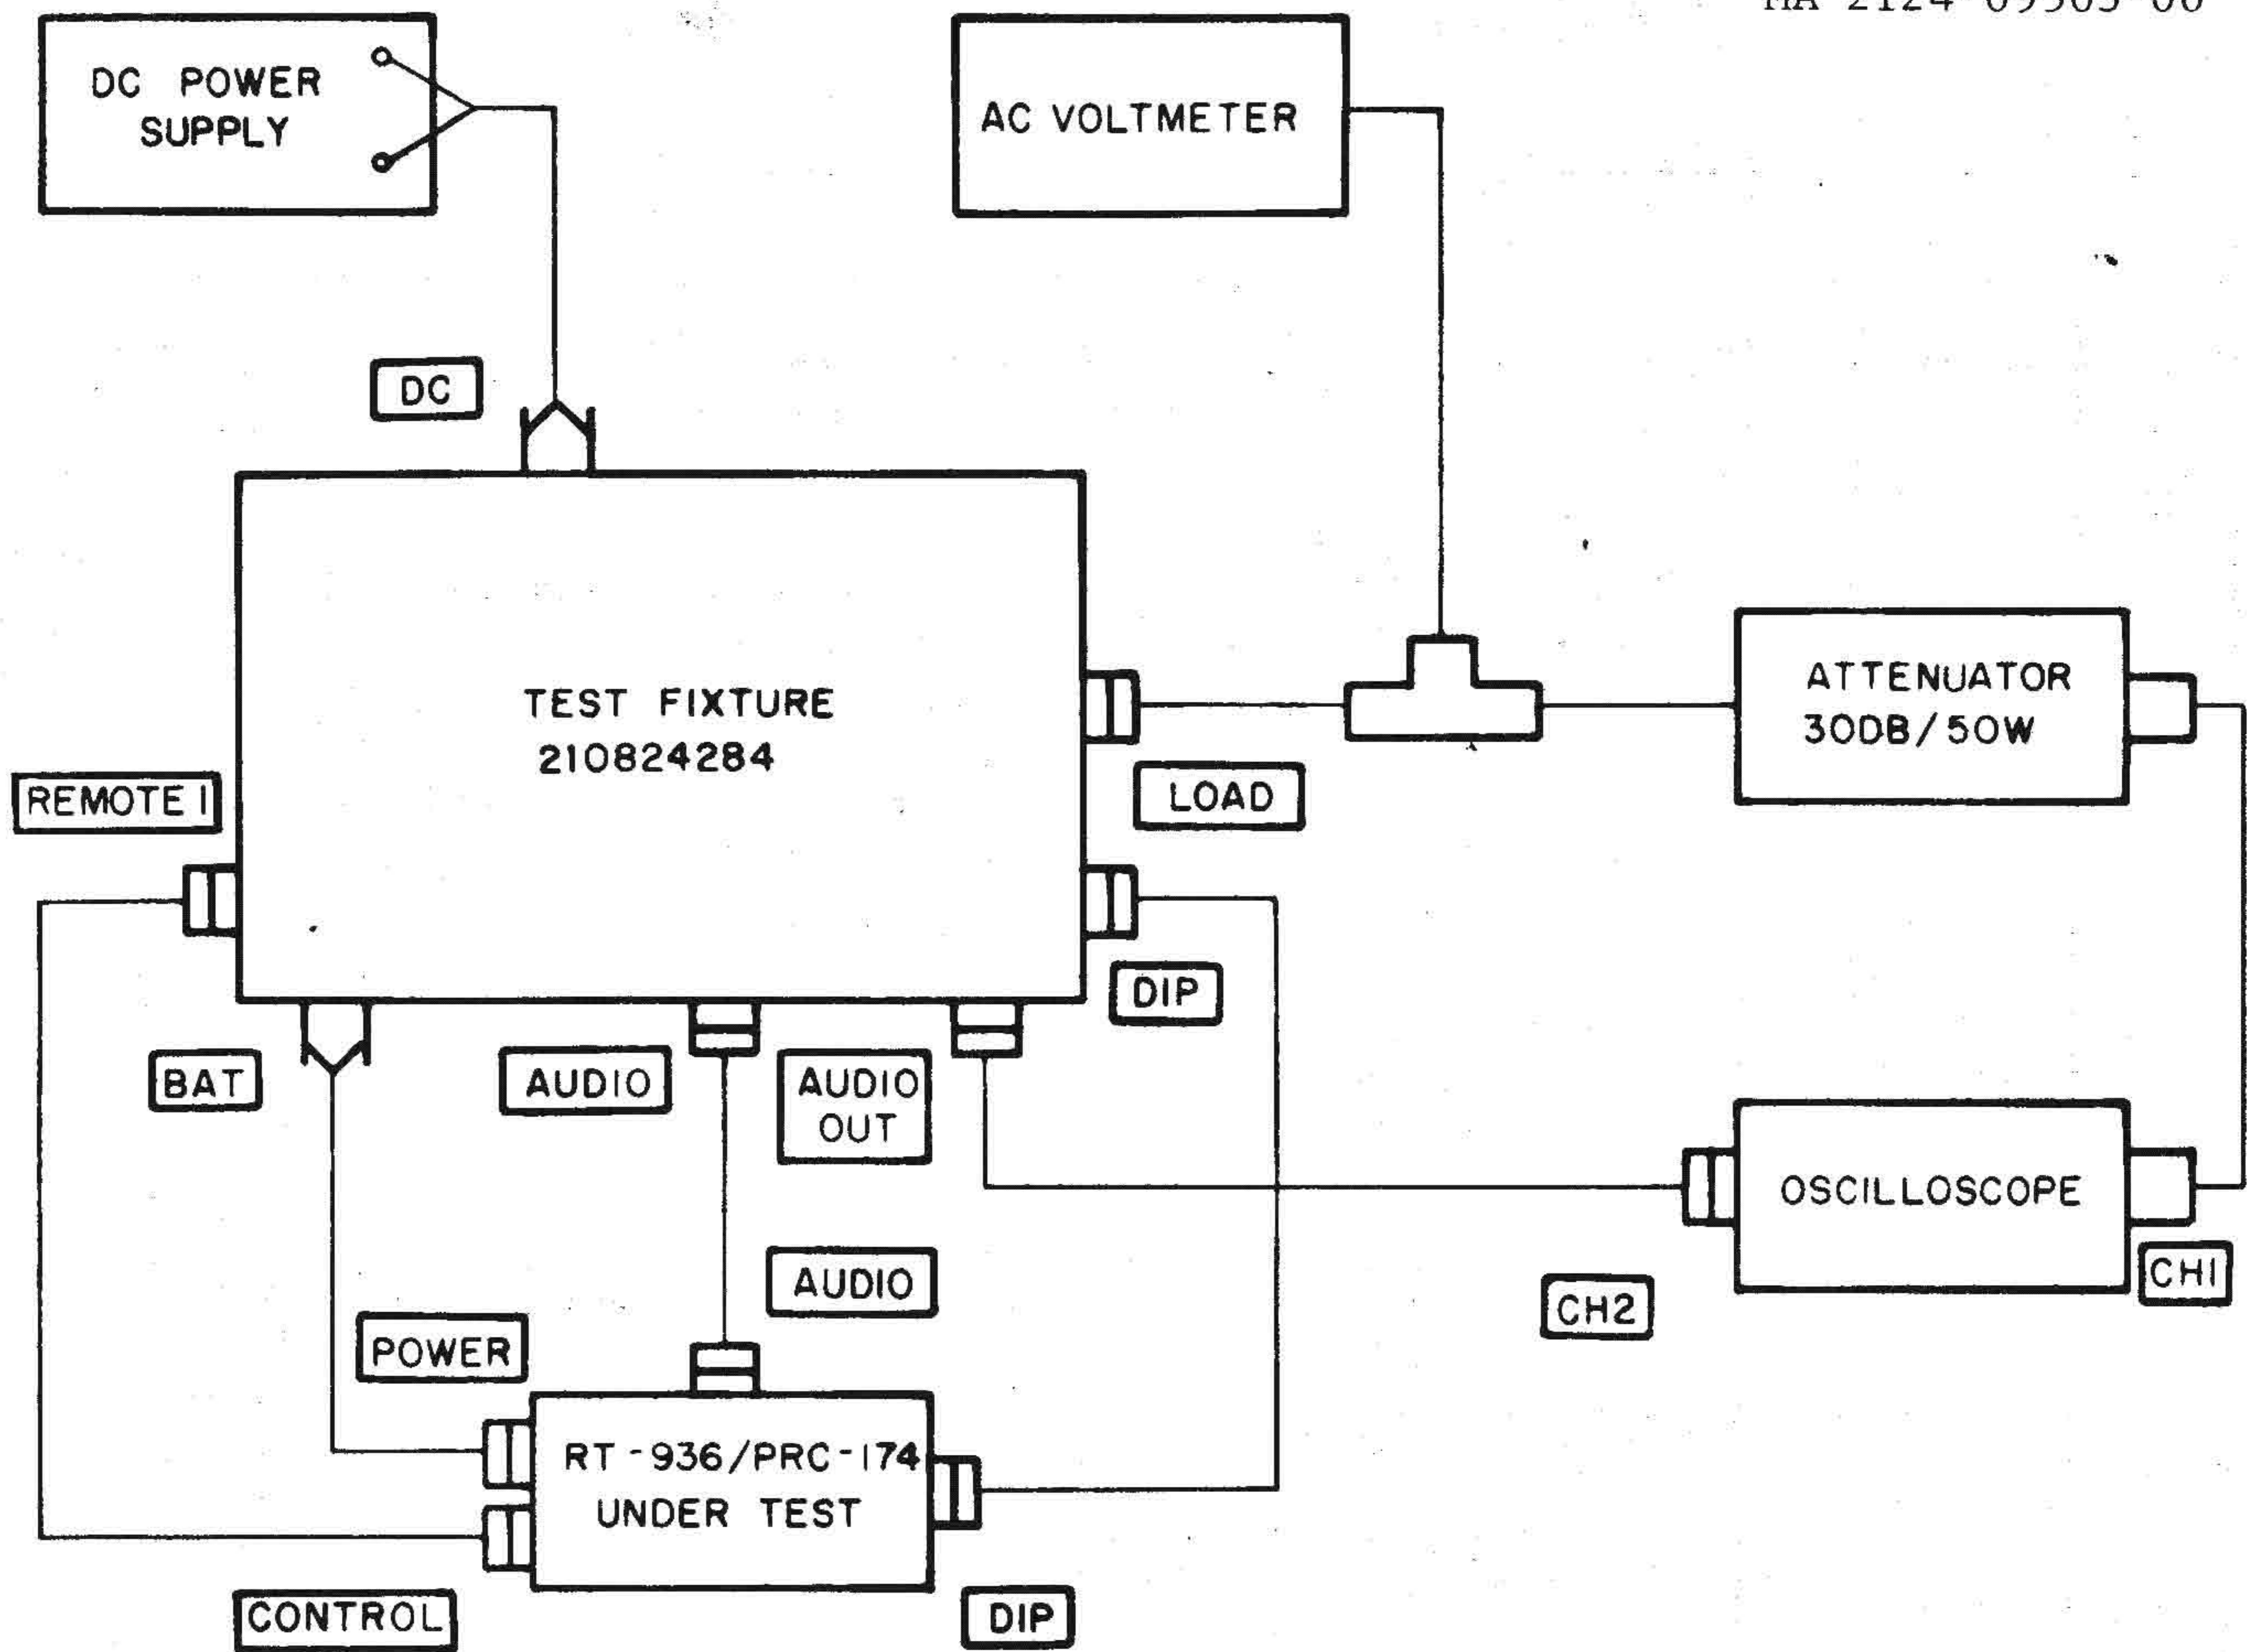
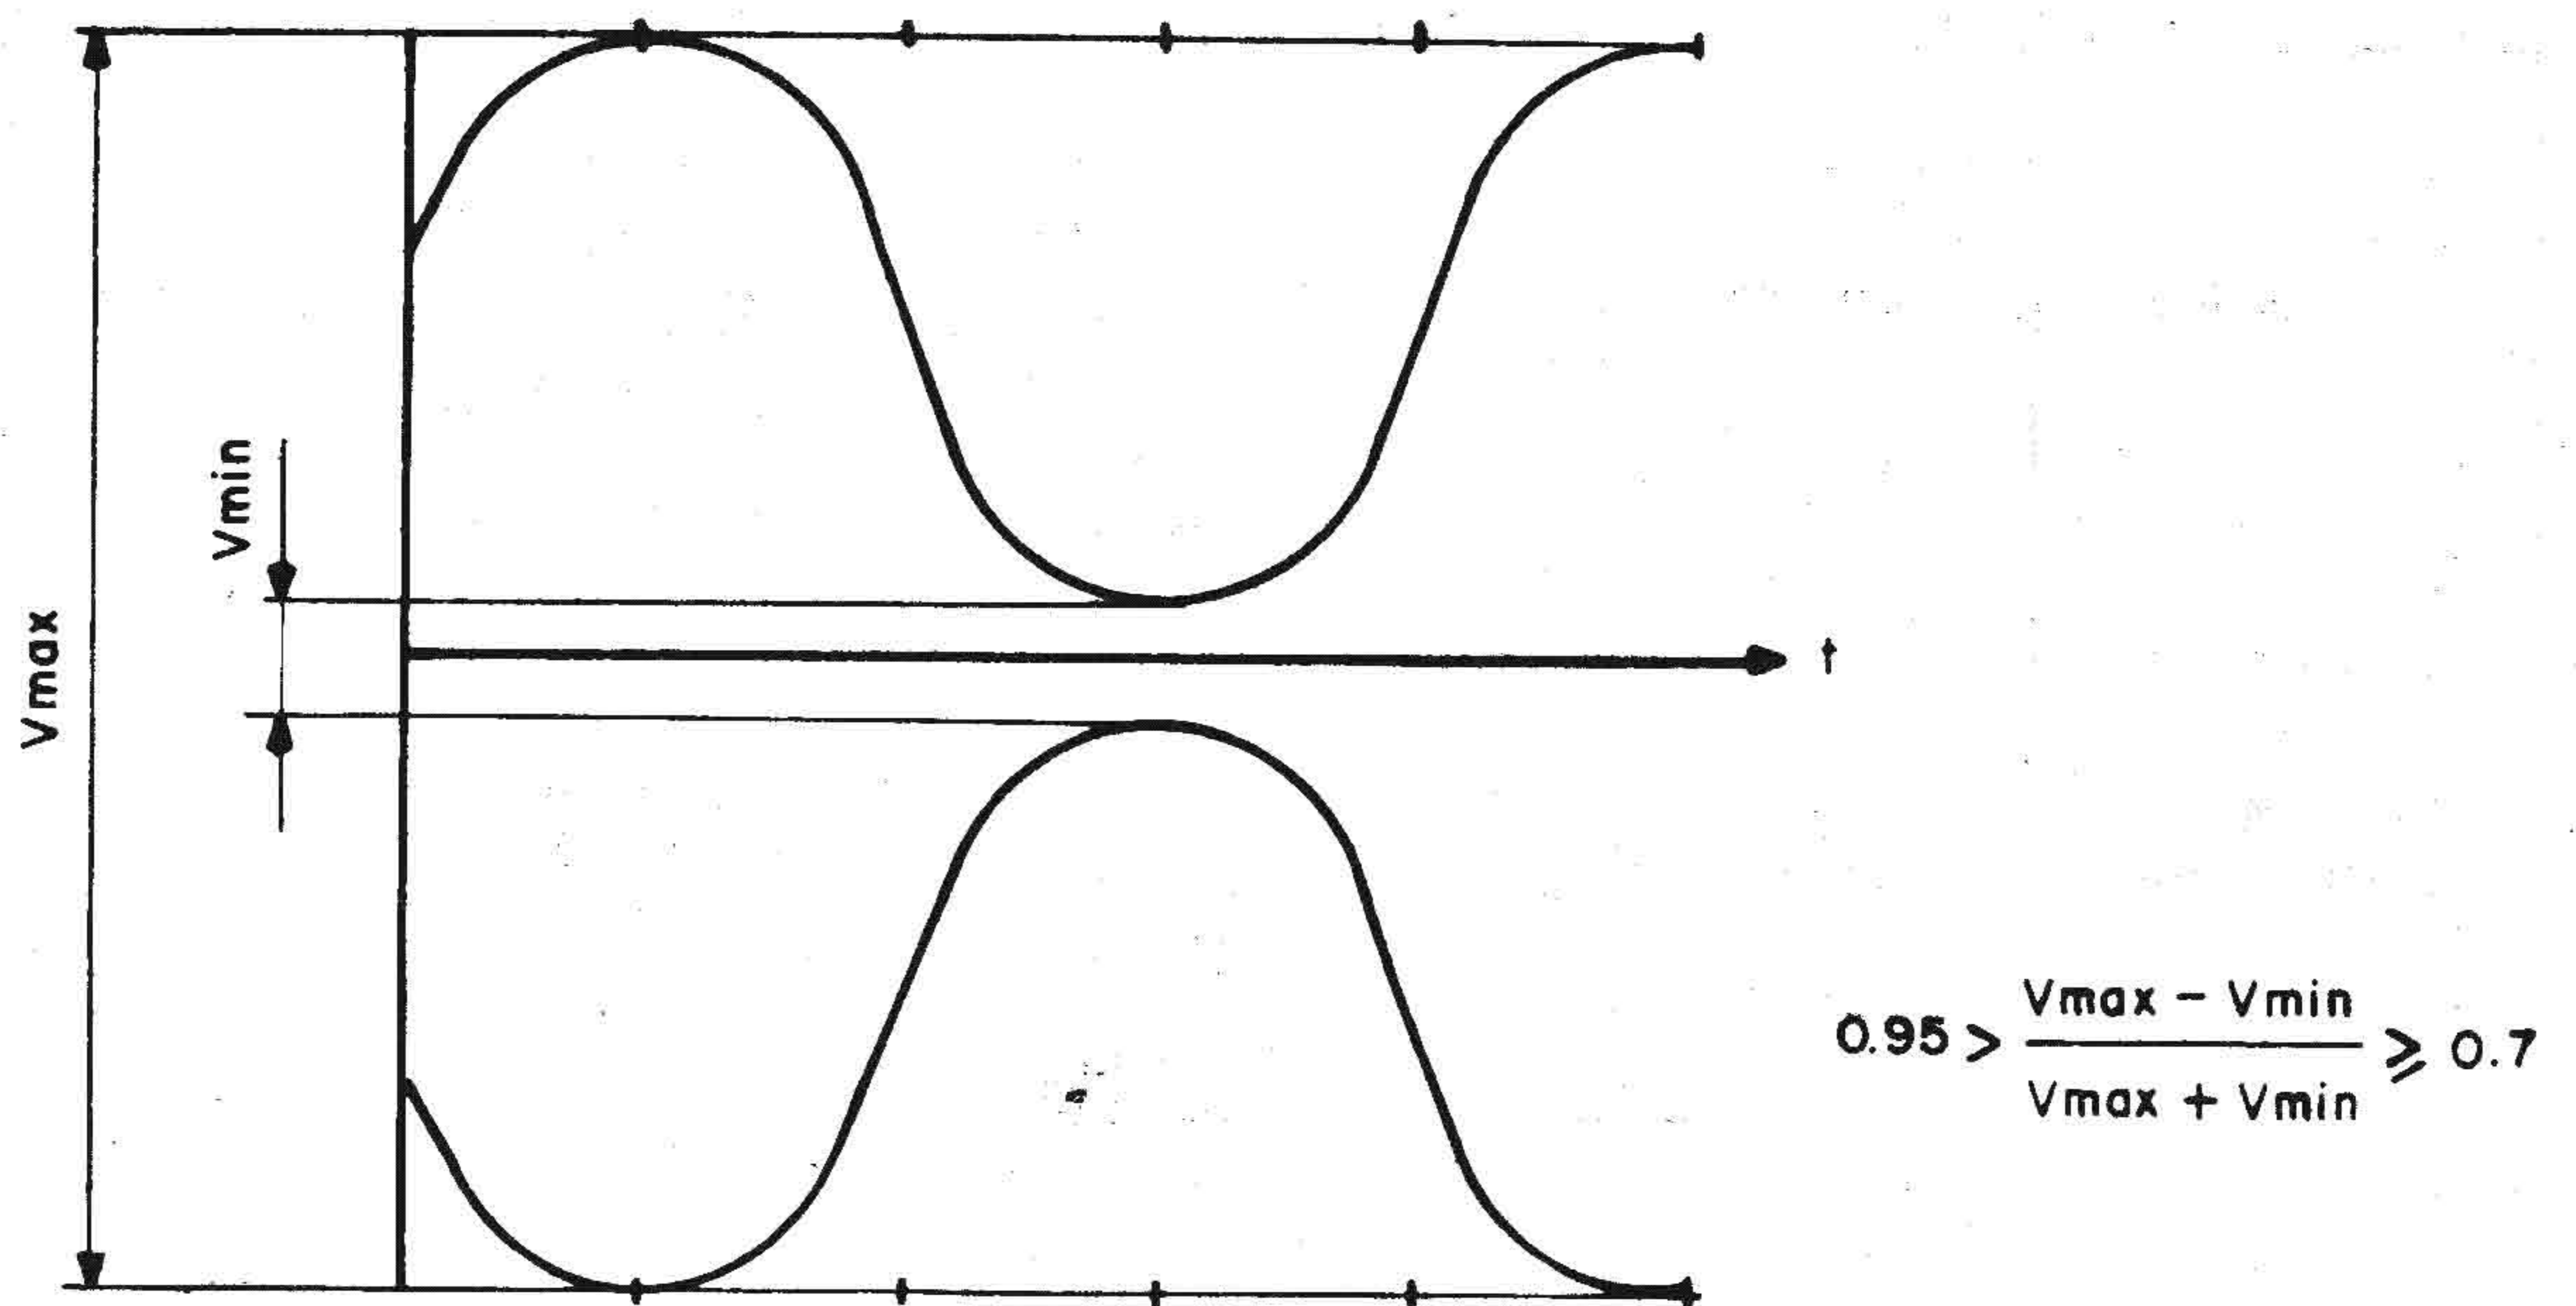

Fig. 4-7. AM Modulation, Test and Adjustment Setup
Figure 4-8. Evaluation of Modulation Index from Oscilloscope Display
| 5 | AM Modulation Index | ON/OFF : ON MODE : AM BAT : IND LOCAL/REM: REM R/T : R/T USB PA/CBP : PA FREQUENCY: 2.0000 WHIP/DIP : DIP ALC/1 kHz VAR : 1 kHz VAR PTT : R MN/BP : BP 220mV/5mV: | (1) Use the test setup shown in fig. 4-7. (2) Set the PTT switch to T. (3) Evaluate the modulation index, m, using the oscilloscope. Use the following formula: $(\%) m = \frac{V_{max} - V_{min}}{V_{max} + V_{min}} \times 100\%$ where (see fig. 4-8): V _{max} - peak voltage of modulated signal at a modulation crest. V _{min} - peak voltage of modulated signal at a modulation trough. (4) Set the PTT switch to R. (5) If modulation index is outside the 70 to 95% range, change the value of resistor R86 in module IF1A2A2 to one of the other values specified in fig. 2-16. | N/A 70 to 95% N/A |